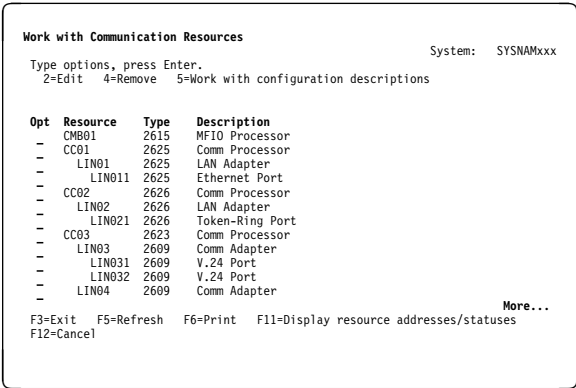

Figure 2-4. WRKHDWRSC *CMN Display Showing Configuration Description Information
To determine the resource names assigned to communications ports, type WRKHDWRSC TYPE(*CMN), then press the Enter key. You will be shown the Work with Communication Resources display (see Figure 2-4).
- The first display (Figure 2-4) shows a brief description of the resource associated with each port.